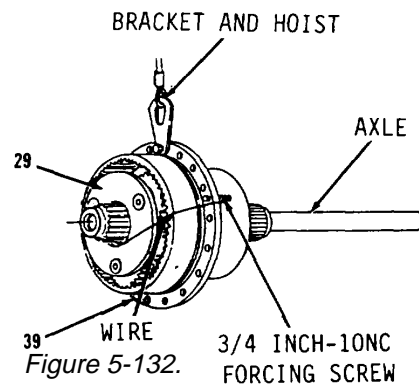

Figure 5-132.
9. Install two 3/4-10NC forcing screws in housing (39). Tighten each forcing screw a small amount at a time, alternating between screws, until housing (39) has been moved far enough out on the studs to install a bracket and hoist on housing (39). Put axle in position in housing (39) to keep items 16 thru 39 as an assembly in balance. Using bracket and hoist, carefully remove items 16 thru 39 as an assembly from vehicle. Make sure planet carrier (29, Figure 5-132) is held in place during removal.